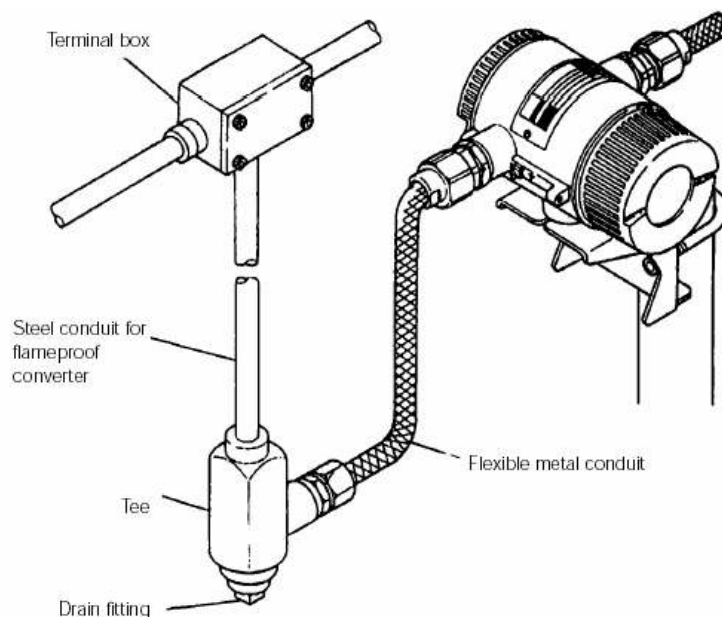

Fig. 4-7. Metal conduit piping for flameproof type
5. For general use, it is recommended that conduits and ducts or racks be used to protect wiring from water or mechanical damage. A rigid steel conduit or flexible metal conduit is recommended (see Fig. 4-7).